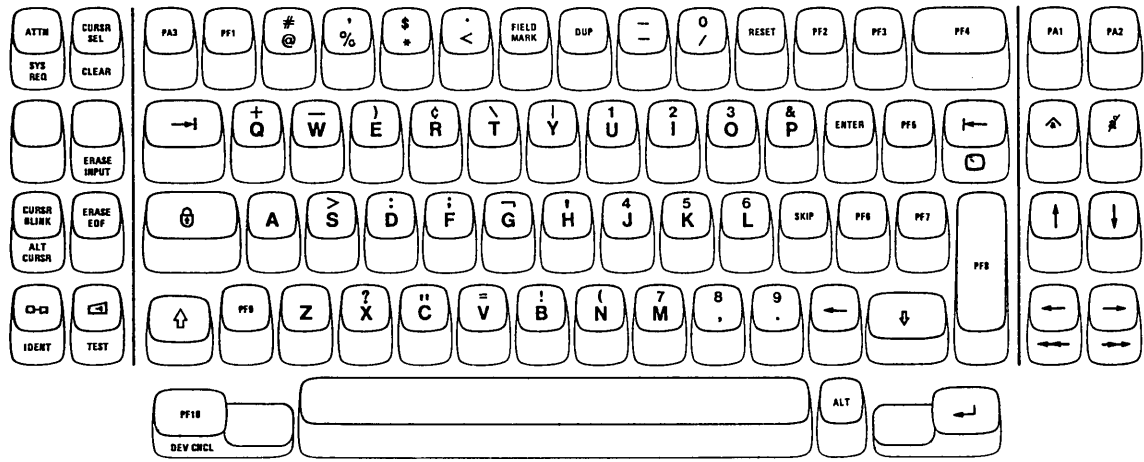

Figure 3-4. Data Entry-Keypunch Layout Keyboard (See Note)
- The Data Entry-Keypunch Layout keyboard (Figure 3-4), which has the same keys as the IBM keypunch (024-026-029-129) keyboard